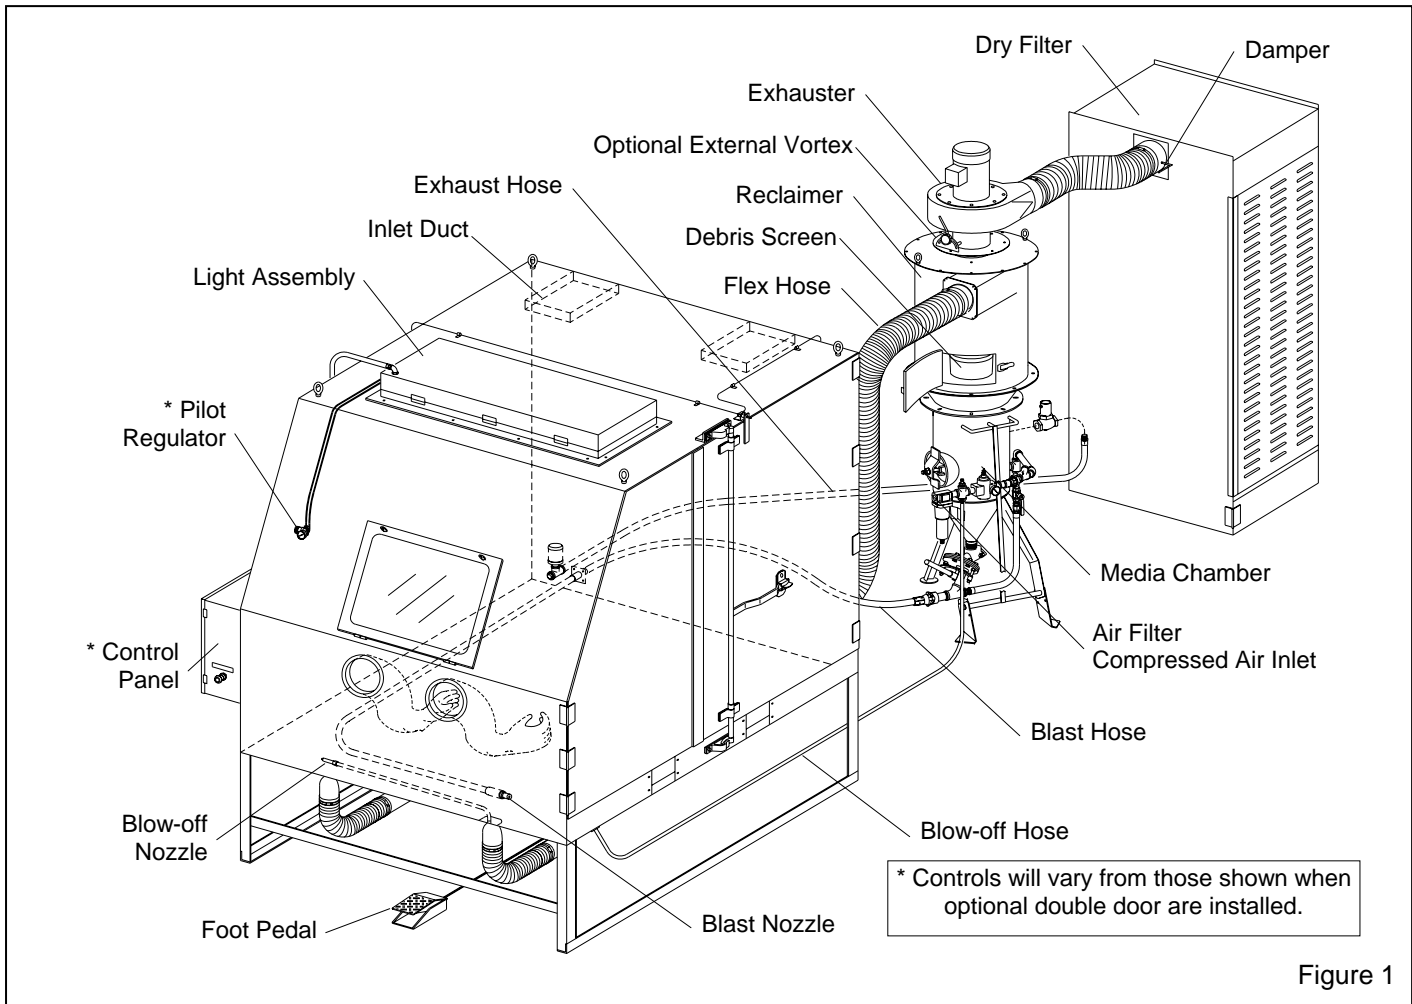
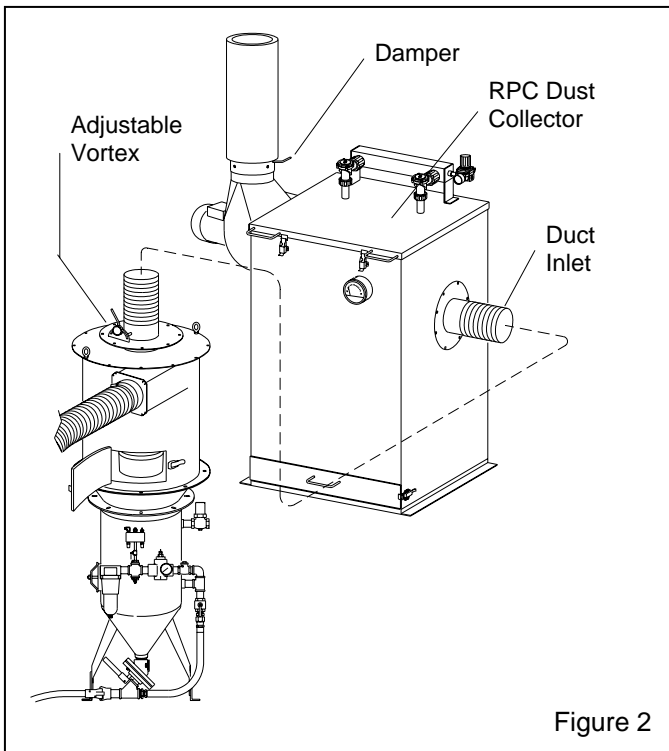
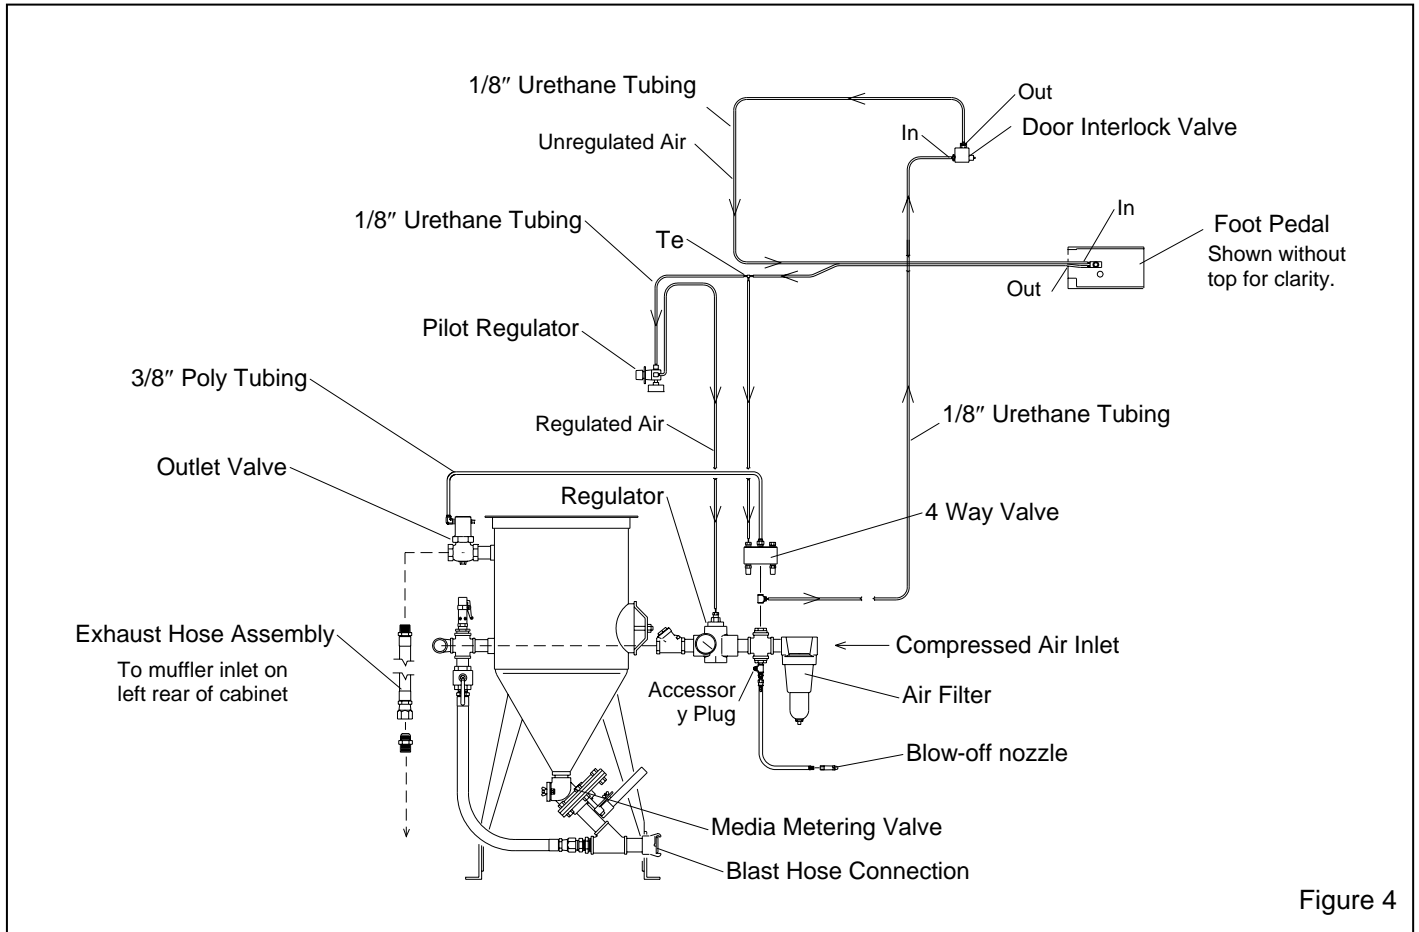

Figure 1
Figure 2
Figure 4
See Figure 1 for arrangement of components with a dry filter. Figure 2 shows the arrangement with a reverse pulse dust collector.
2.1.3 See Figure 1 (and 2 for optional reverse pulse collector) for the general arrangement and Figure 4 for control line schematic. Select a location where compressed air and electrical service are available. The cabinet location must comply with OSHA and local safety codes. Allow for full access to all doors and service areas, and for efficient handling of large parts. Provide enough clearance in front of the dust collector to remove the dust drawer without tipping. Ideally, locate the media chamber directly behind the cabinet with the blast hose connection toward the cabinet. The reclaimer may be rotated on the media chamber to enable hose
2.5.1 Attach the 1/2" blow-off hose coming from the front right cabinet hopper, to the compatible fitting on the media chamber piping, between the air filter and regulator. See the schematic in Figure 4.
2.8.1 Uncoil the 1/8" urethane control tubing, from under the cabinet. The end of each tubing is numbered 1, 2, 3 or 4. Connect the tubing to the adaptor with the corresponding number on the pressure regulator, piping, and 4-way air valve. Check the schematic in Figure 4 to confirm the connections.